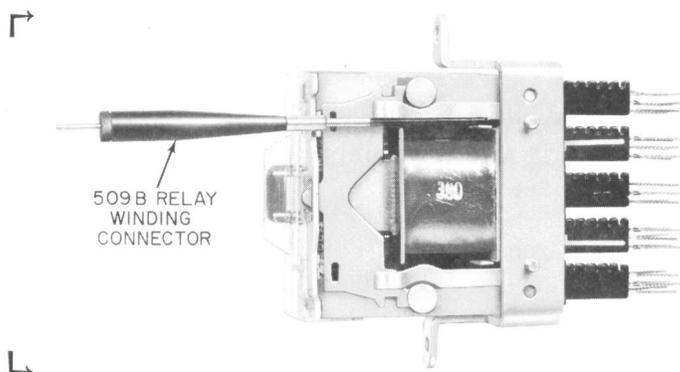

Fig. 12—Connecting to Winding Terminal at 286-, 287-, or 288-Type Wire Spring Multicontact Relay (286-Type Shown)
1.02 This section is reissued to add note to avoid interference with operation of cards on wire spring relays and to include reference of AL- and AM-Type relays and to add Fig. 12.
2.04 Connections to Winding Terminals of 286-, 287-, and 288-Type Relays (Multicontact Wire Spring) From Apparatus Side of Frame (Front of Frame) Fig. 12: Place the hooked end of the 509B relay winding connector in the hole of the winding terminal and draw the handle of the tool forward sufficiently to permit the slotted portion of the hook to engage the core plate.